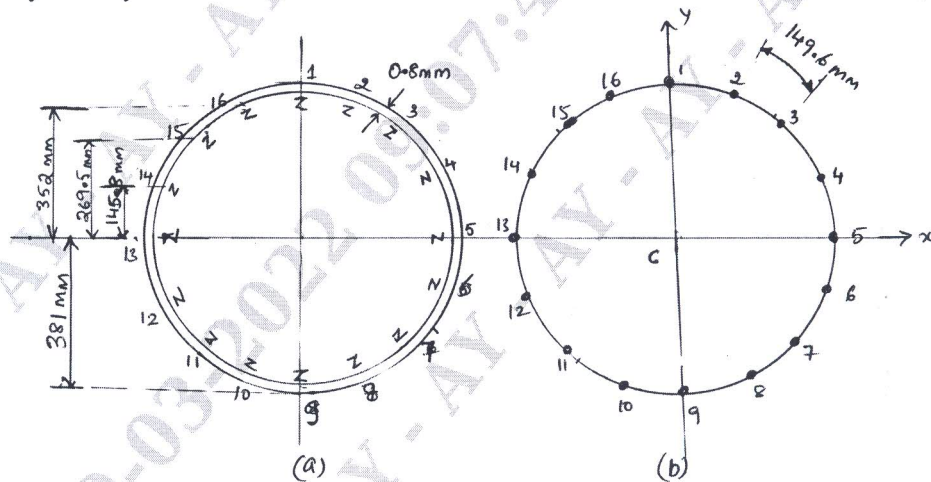

Fig.Q.10
- 10 The fuselage of a light passenger carrying aircraft has the circular cross-section as shown in Fig.Q.10. The cross sectional area of each stringer is 100mm^2 and the vertical distances given in Fig.Q.10 are to the mid line of the section wall at the corresponding stringer position. If the fuselage is subjected to a bending moment of 200kNm applied in vertical plane of symmetry at this section calculate the direct stress distribution. (16 Marks)